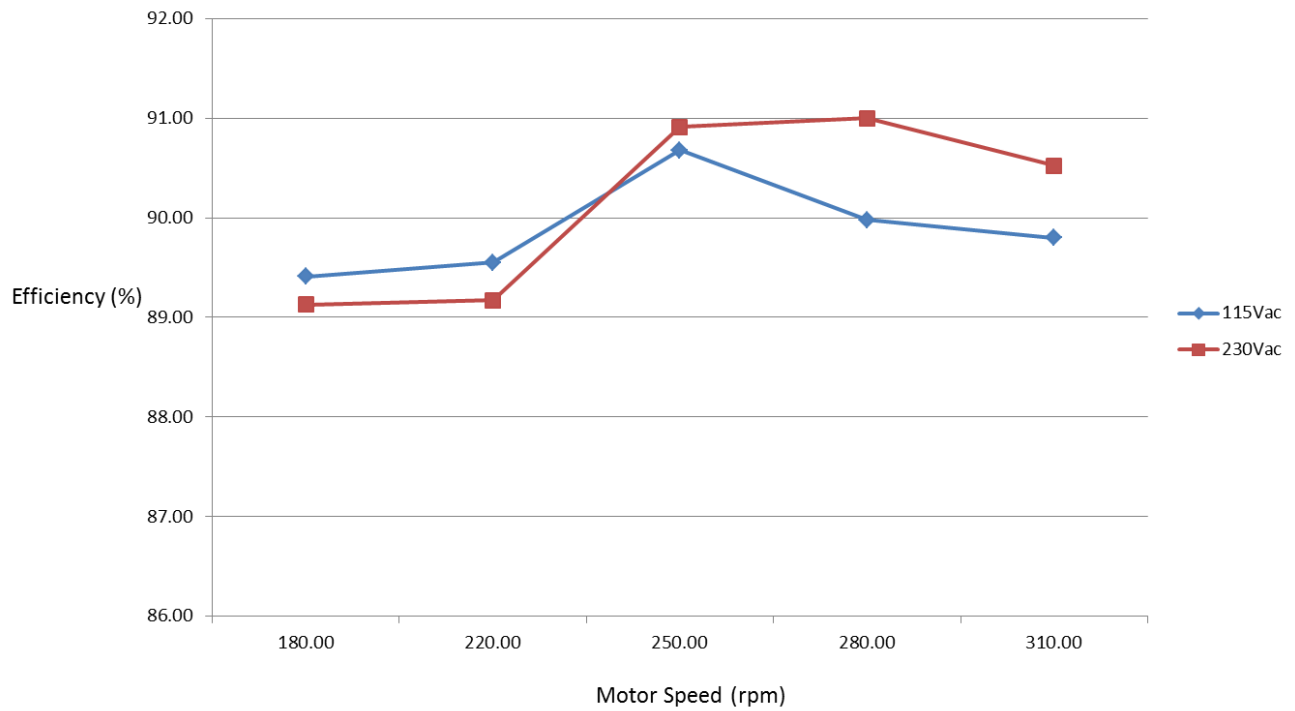

Figure2: AC/DC efficiency with respect to motor load at nominal voltages
- AC-DC characterization test:** Test is performed to characterize AC/DC converter at different load (motor speed) and input AC line condition. Table below shows the data for AC/DC input power, output power at 24V and most importantly efficiency and output voltage regulation, as shown in figure 2, 3 and 4 respectively. From these figures it can be concluded that AC/DC efficiency is above 88% and output voltage remains with limits of 23.75V to 24.25 at all load and line conditions to achieve speed regulation within $\pm 1\%$.